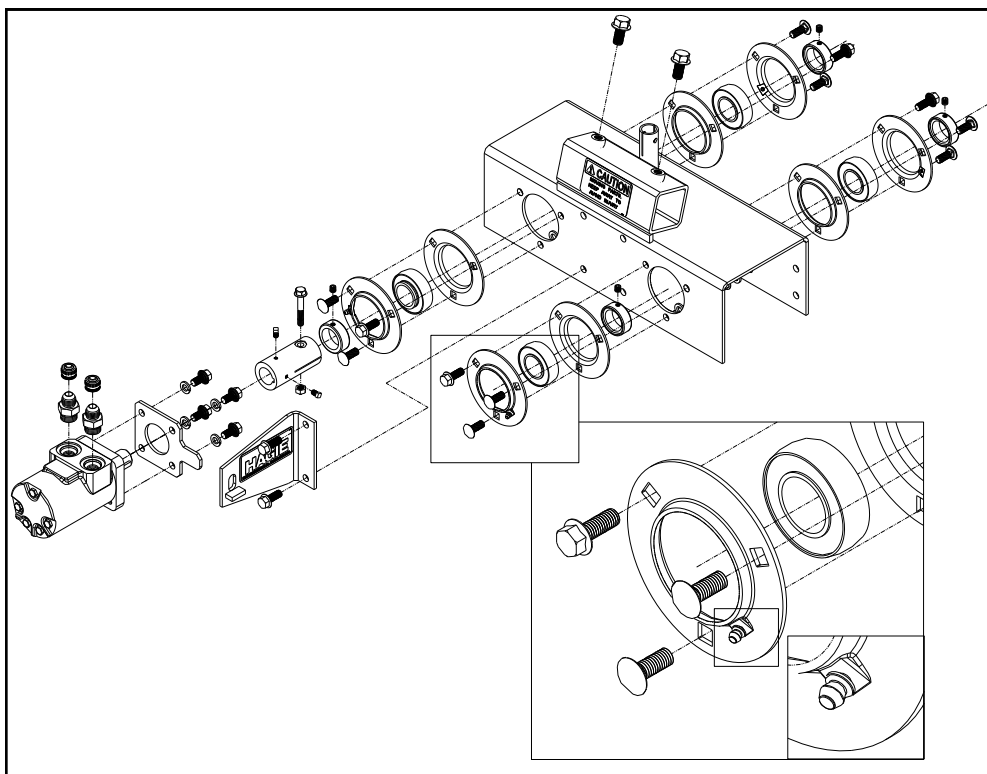

FIG 7.31
Each quad puller head has four bearings equipped with grease zerkers (fig. 7.31). To ensure the longest life and best performance, grease each bearing twice a day: suggested times are morning and noon.
**CLEANING** - Disconnect battery cables from battery. Remove all corrosion with a wire brush or battery post brush (fig. 7.31). Wash the cable connections and battery posts with a weak solution of baking soda or ammonia. Apply petroleum jelly or grease to prevent future corrosion. Reconnect the cables to the battery making sure they are tight. Clean every 100 hours.